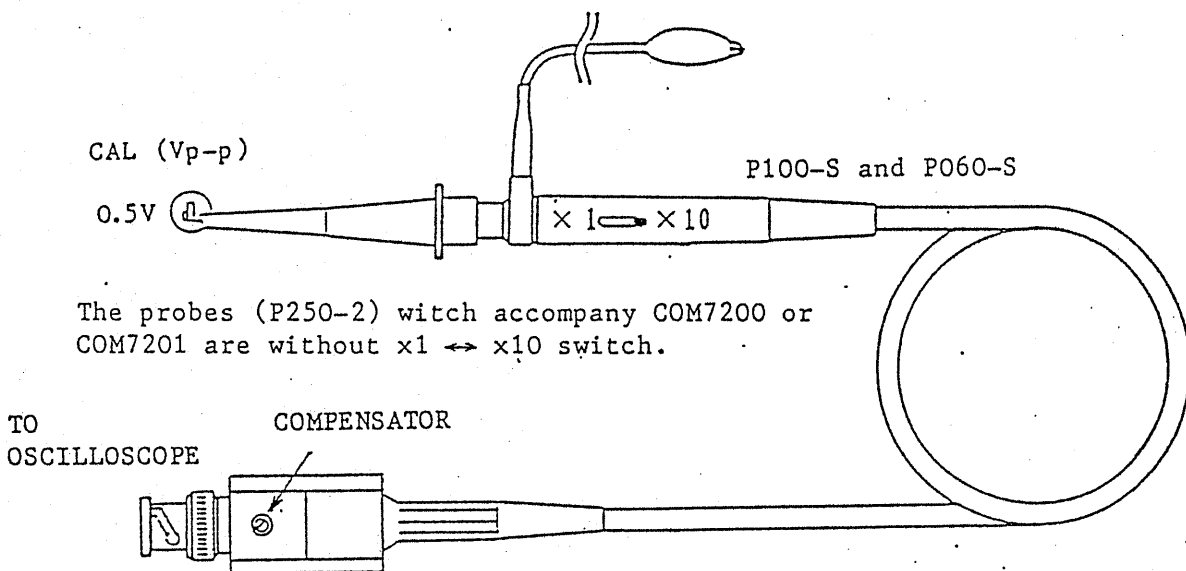

Figure 4.6
Connect one of the probes to the CH1 INPUT (8) terminal and set the VOLTS/DIV (6) switch at 10 mV. For Type P100-S or P060-S Probe, set the switch at x10. Connect the probe tip to the CAL terminal. Observing the waveform displayed on the CRT, adjust the compensator (see Figure 4-6) with a screwdriver so that an ideal waveform is obtained.